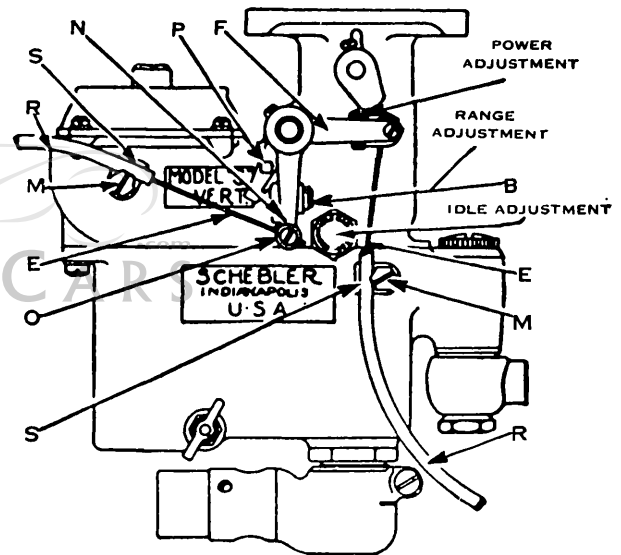

Fig. 7
**Control Hook-up.**When using the loose lever (N, Fig. 7) the control tubing (R) is fastened in clamp (S) with screw (M) on side of body just below the air funnel. Fasten the control wire (E) in the binding post (O) on loose lever (N) with the throttle closed allowing 1/16" play between the loose lever (N) and the boss it strikes against on lever (P).
**Idle Adjustment.**—Turn the idle adjusting knurl (Fig. 7) to the right for a lean mixture, and to the left for a rich mixture. To check the idle adjustment, warm up the motor thoroughly and by this we mean to have a hot motor. Then close the throttle, retard the spark all the way if car has manual spark control and then adjust idle stop screw so that motor will not idle less than five miles per hour on the road. After you have the